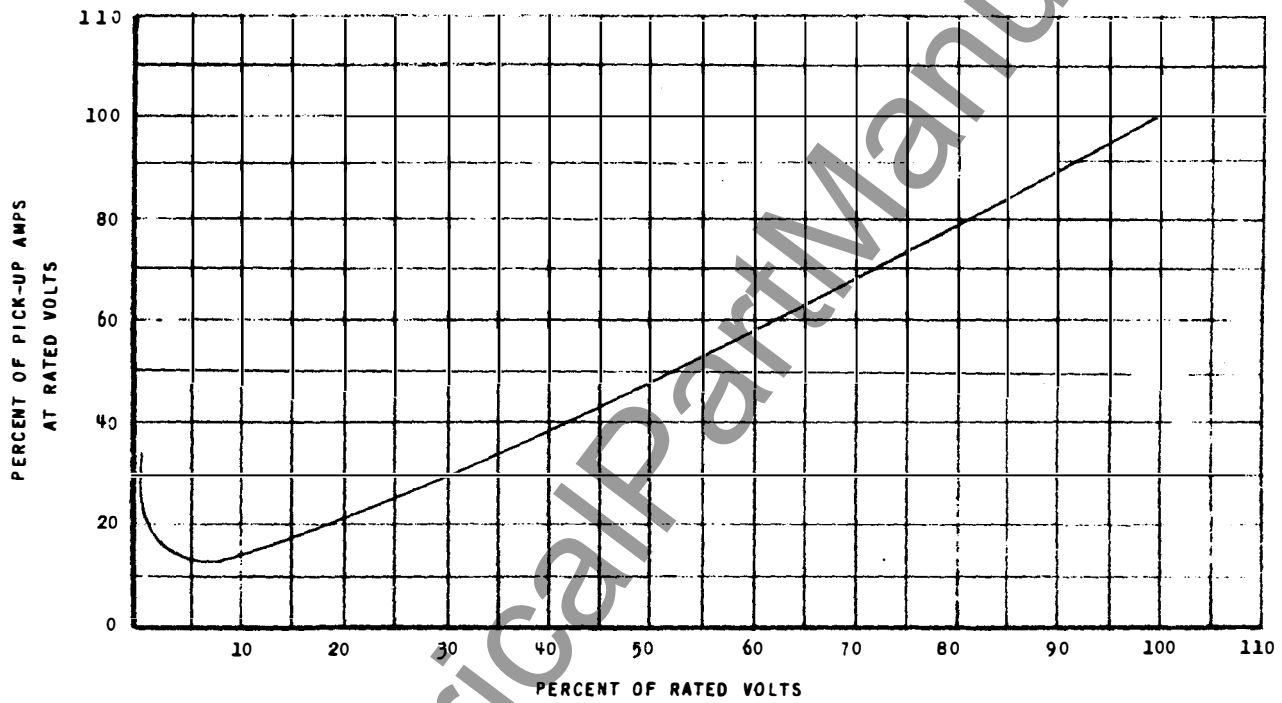

Figure 12 (K-6507958-1) Directional-Unit-Pickup Characteristic with Balanced Voltage and at Maximum Torque Angle
- Figure 12 (K-6507958-1) Directional-Unit-Pickup Characteristic with Balanced Voltage and at Maximum Torque Angle